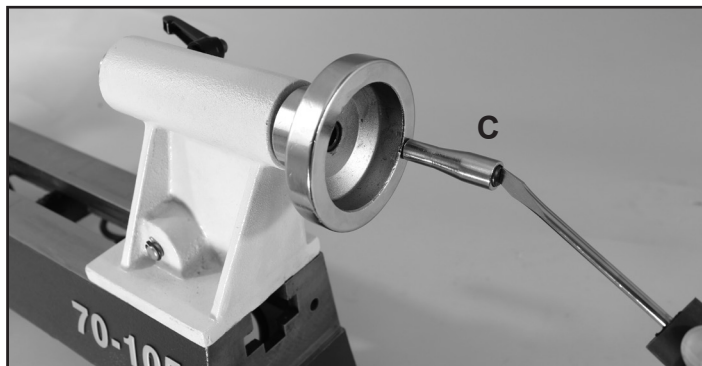

FIG. 3
1. With a slotted screwdriver (not supplied) attach the tailstock handle (C) to the hand wheel with the screw provided. FIG. 3.